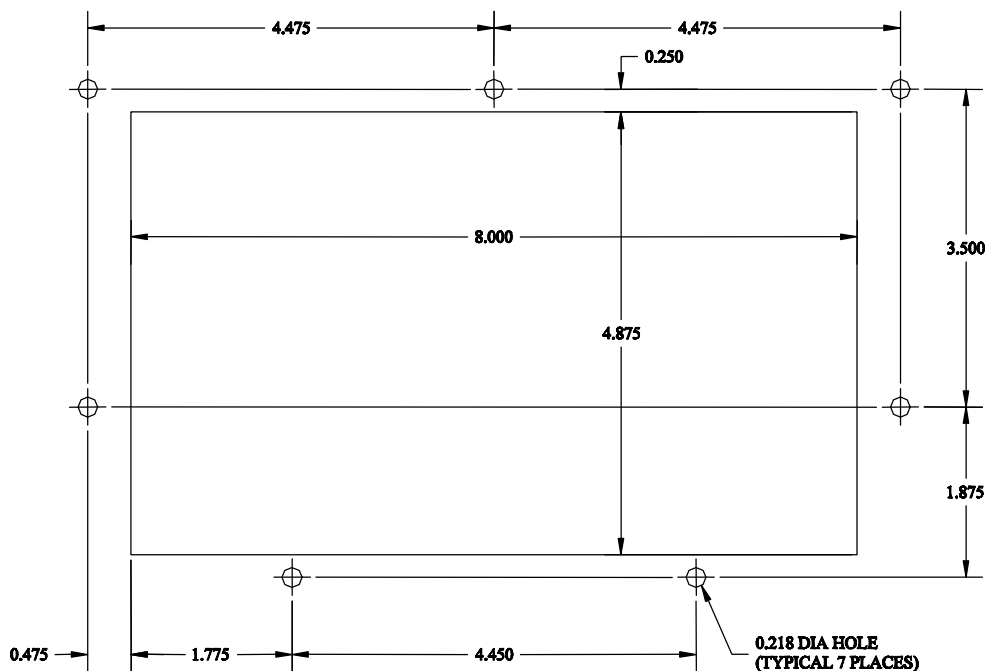

Figure 1 - HSM-WI7 Recommended Panel Door Cut-out
- 1) Referring to the recommended cut-out in figure 1, cut a cut-out in the door of the existing user's control cabinet or console.